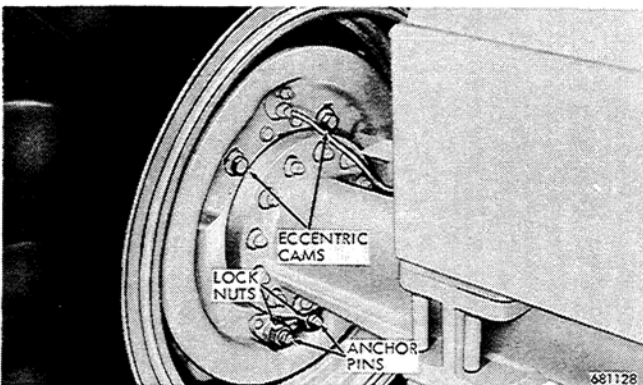

Figure 5
2. Disconnect the brake line at the wheel cylinder and remove the two mounting cap screws, Figure 5. Then remove the wheel cylinder from the backing plate.